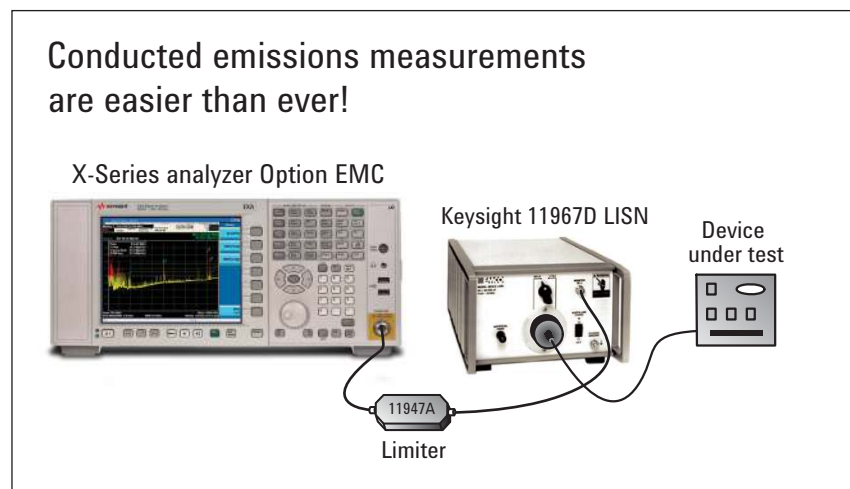

Figure 4. Conducted measurements interconnection
1. Interconnect the EMC analyzer, limiter, LISN, and EUT as shown in Figure 4. (Operation of the LISN and transient limiter is cover in Appendix A.)